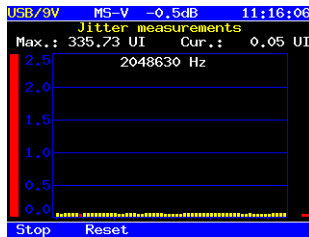

Figure 8.23. Menu “Jitter measurements”
8.11.1. **Jitter measurements** menu allows to measure and analyse jitter in the receive signal. An example of measurement results is shown on the Figure 8.23. (horizontal grid spacing – 1sec., vertical grid spacing – 0.5 UI)